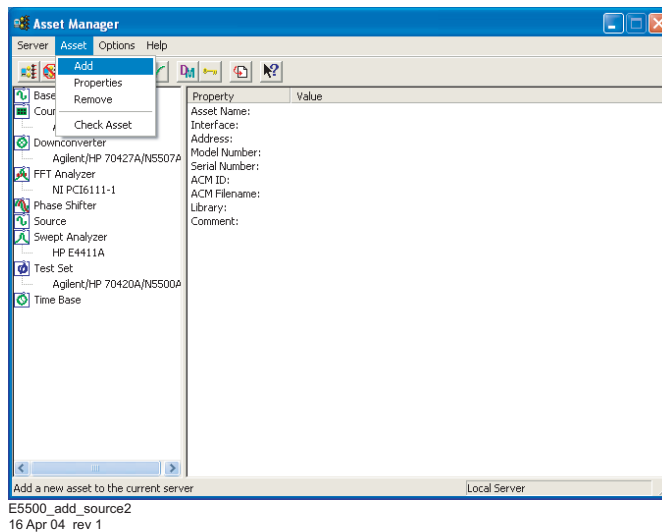

Figure 21 Navigate to Add in Asset Manager
- 2 Select **Add** in the Asset Manager window. See Figure 21.